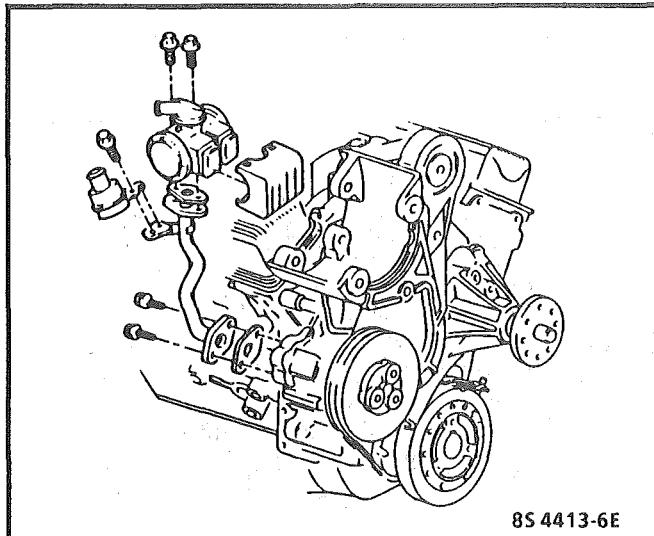

Figure C6-3 - Air Pump Service
4. Air pump mounting bolts, and pump assembly (See Figure C6-3).